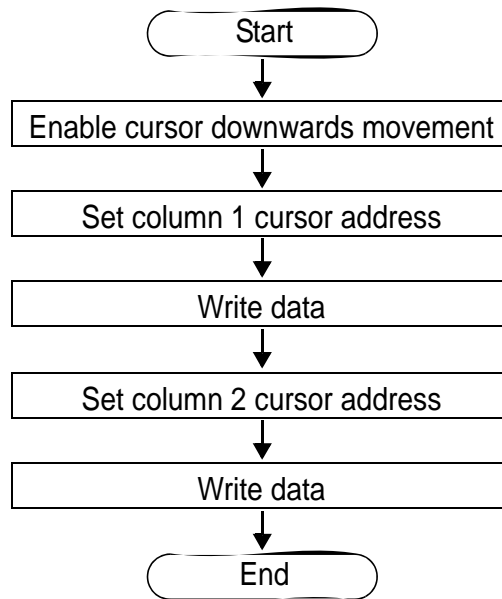

Fig.92 16 x16-dot display flowchart
2. The microprocessor sets the display address and writes to the VARM. The flowchart is shown in Figure 92.